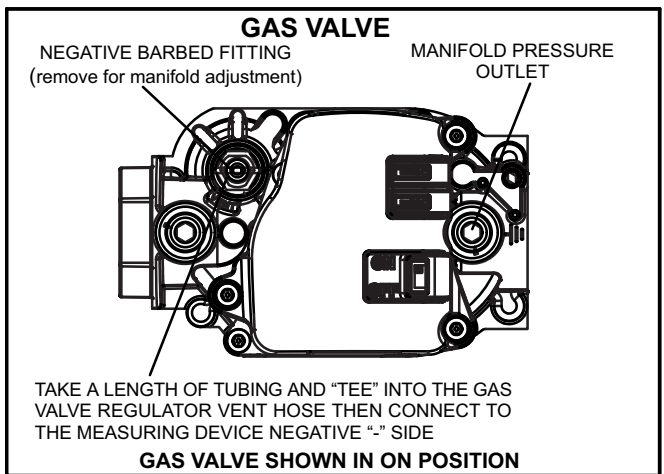

FIGURE 1
- 2 - Remove the heating compartment access panel. Turn the automatic gas valve switch to the **OFF** position. See figure 1.
- 6 - Move gas valve switch to **OFF**. See figure 1.
- 7 - Wait five (5) minutes for any gas to clear out. If you then smell gas, **STOP!** Immediately call your gas supplier from a neighbor's phone. Follow the gas supplier's instructions. If you do not smell gas, go to the next step.
- 8 - Move gas valve switch to **ON**. See figure 1.
When testing manifold gas pressure, use the 1/8" N.P.T. plugged tap (manifold pressure outlet) located on the gas valve to facilitate test measuring device. See figure 1.
- 7 - Remove the negative barbed fitting as shown in figure 1 and using a screw driver make adjustment to increase or decrease manifold pressure.